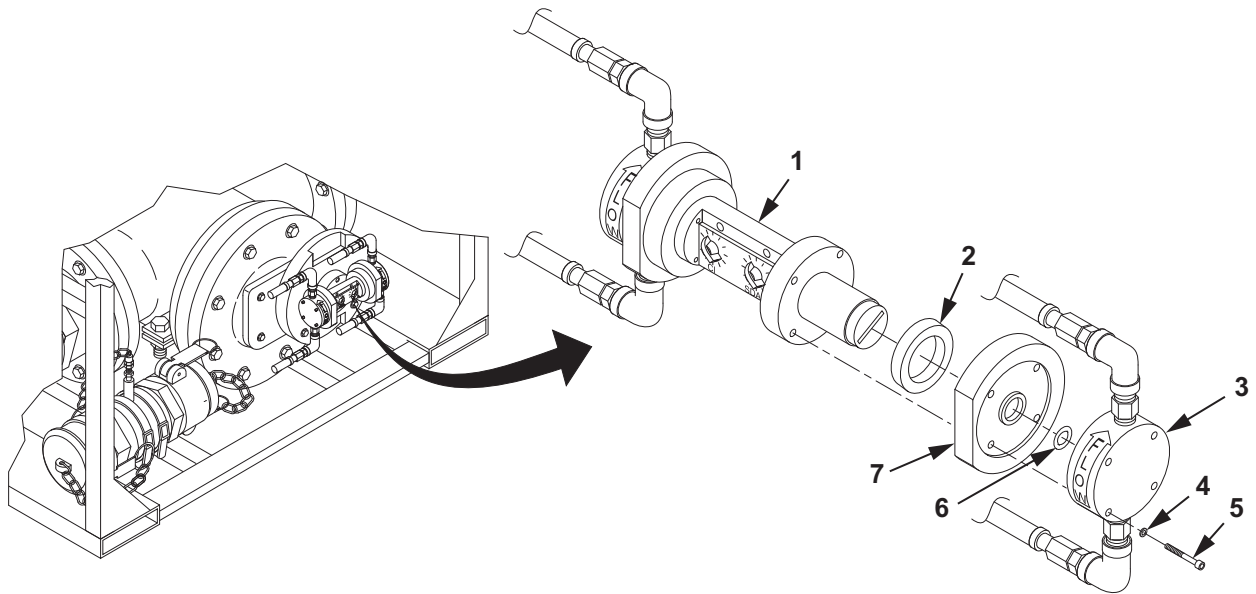

Figure 1. CI and SDA Injection Pump Lip Seal Removal.
1. Place drain pans below CI and SDA injection pump (Figure 1, Item 1).
2. Remove four screws (Figure 1, Item 5) and lockwashers (Figure 1, Item 4) from fluid end cap assembly (Figure 1, Item 3).
3. Discard lockwashers (Figure 1, Item 4).
4. Remove fluid end cap assembly (Figure 1, Item 3).
5. Remove O-ring (Figure 1, Item 6) from adapter seal (Figure 1, Item 7).
6. Remove adapter seal (Figure 1, Item 7) from CI and SDA injection pump (Figure 1, Item 1).
7. Remove lip seal (Figure 1, Item 2) from adapter seal (Figure 1, Item 7).
8. Discard lip seal (Figure 1, Item 2) and O-ring (Figure 1, Item 6).